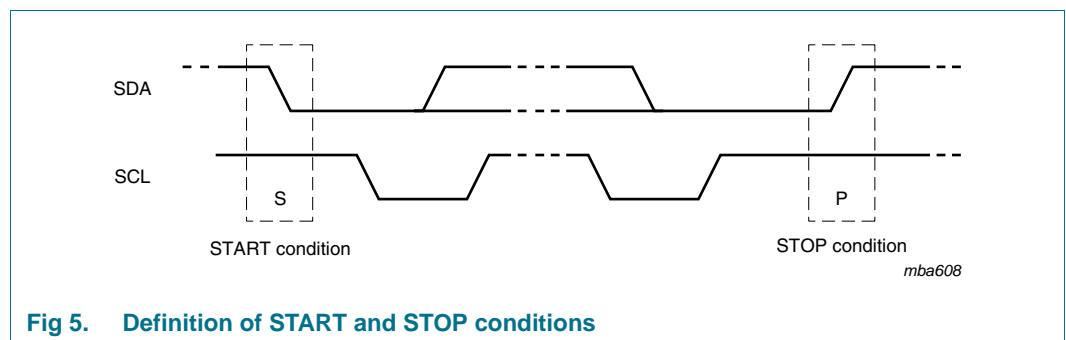

Fig 5. Definition of START and STOP conditions
Both data and clock lines remain HIGH when the bus is not busy. A HIGH-to-LOW transition of the data line while the clock is HIGH is defined as the START condition (S). A LOW-to-HIGH transition of the data line while the clock is HIGH is defined as the STOP condition (P) (see Figure 5).